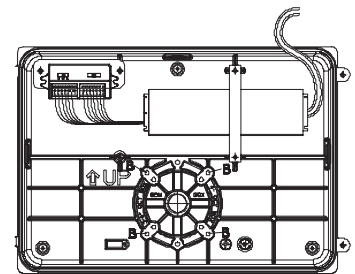

Fig 4
**METHOD 2:** Drill holes as per existing junction box. (Fig 4)